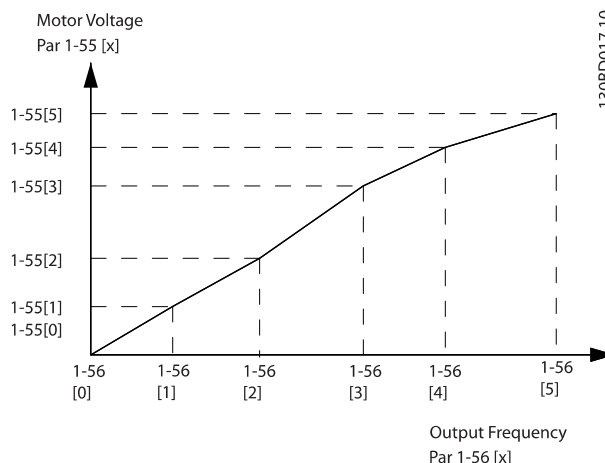

Figure 4.3 U/f Characteristics
0.0 Hz* [0.0-1,000.0 Hz]	This parameter is an array parameter [0-5] and is only functional when 1-01 Motor Control Principle is set to [0] U/f. Enter frequency points to manually form a U/f characteristic matching motor. Voltage at each point is defined in 1-55 U/f Characteristic - U. Make a U/f characteristic based on six definable voltages and frequencies, see Figure 4.3.